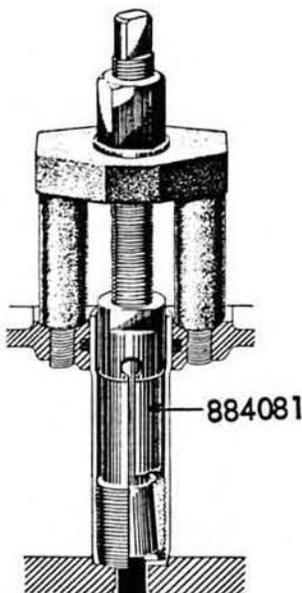

Fig 7. Removing the injector sleeve.
2. Turn the expanding tool spindle anti-clockwise to tension the spindle in the sleeve. Do not pull too hard but just enough to give the spindle a firm grip, Fig 7.